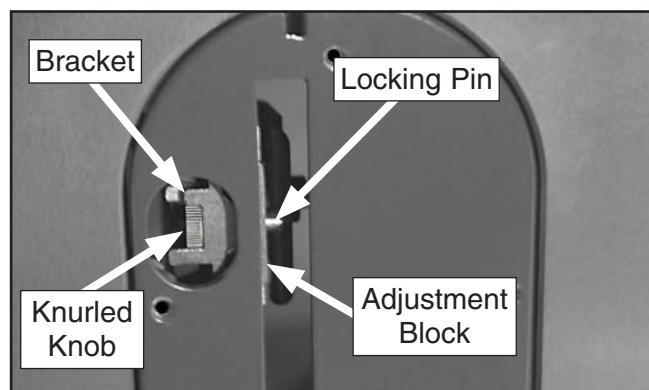

Figure 32. Knurled knob used to secure spreader.
1. Reinstall the table insert, slide the knurled knob out (see **Figure 32**) and rotate it forward so it engages the upper bracket.